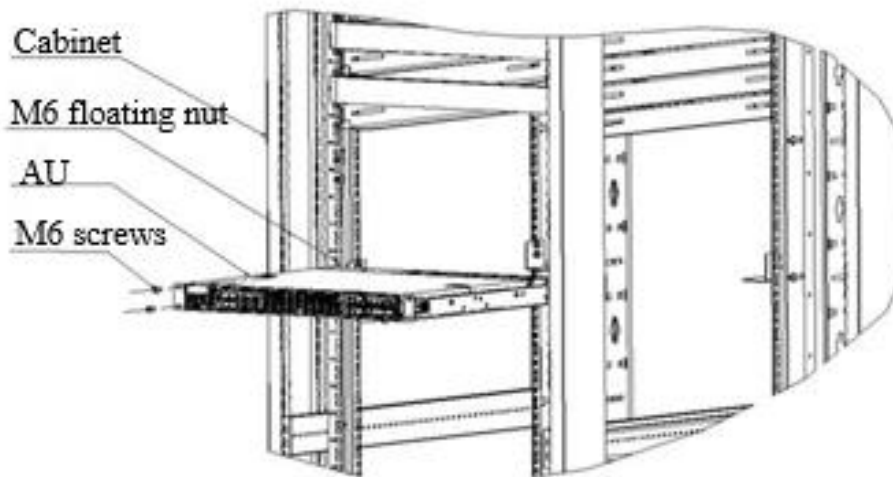

Figure 3-6 Installation diagram of AU on cabinet
Step 3: insert the AU horizontally into the cabinet, tighten the M6 screws, as shown in Figure 3-6 Installation diagram of AU on cabinet, and the installation is completed.